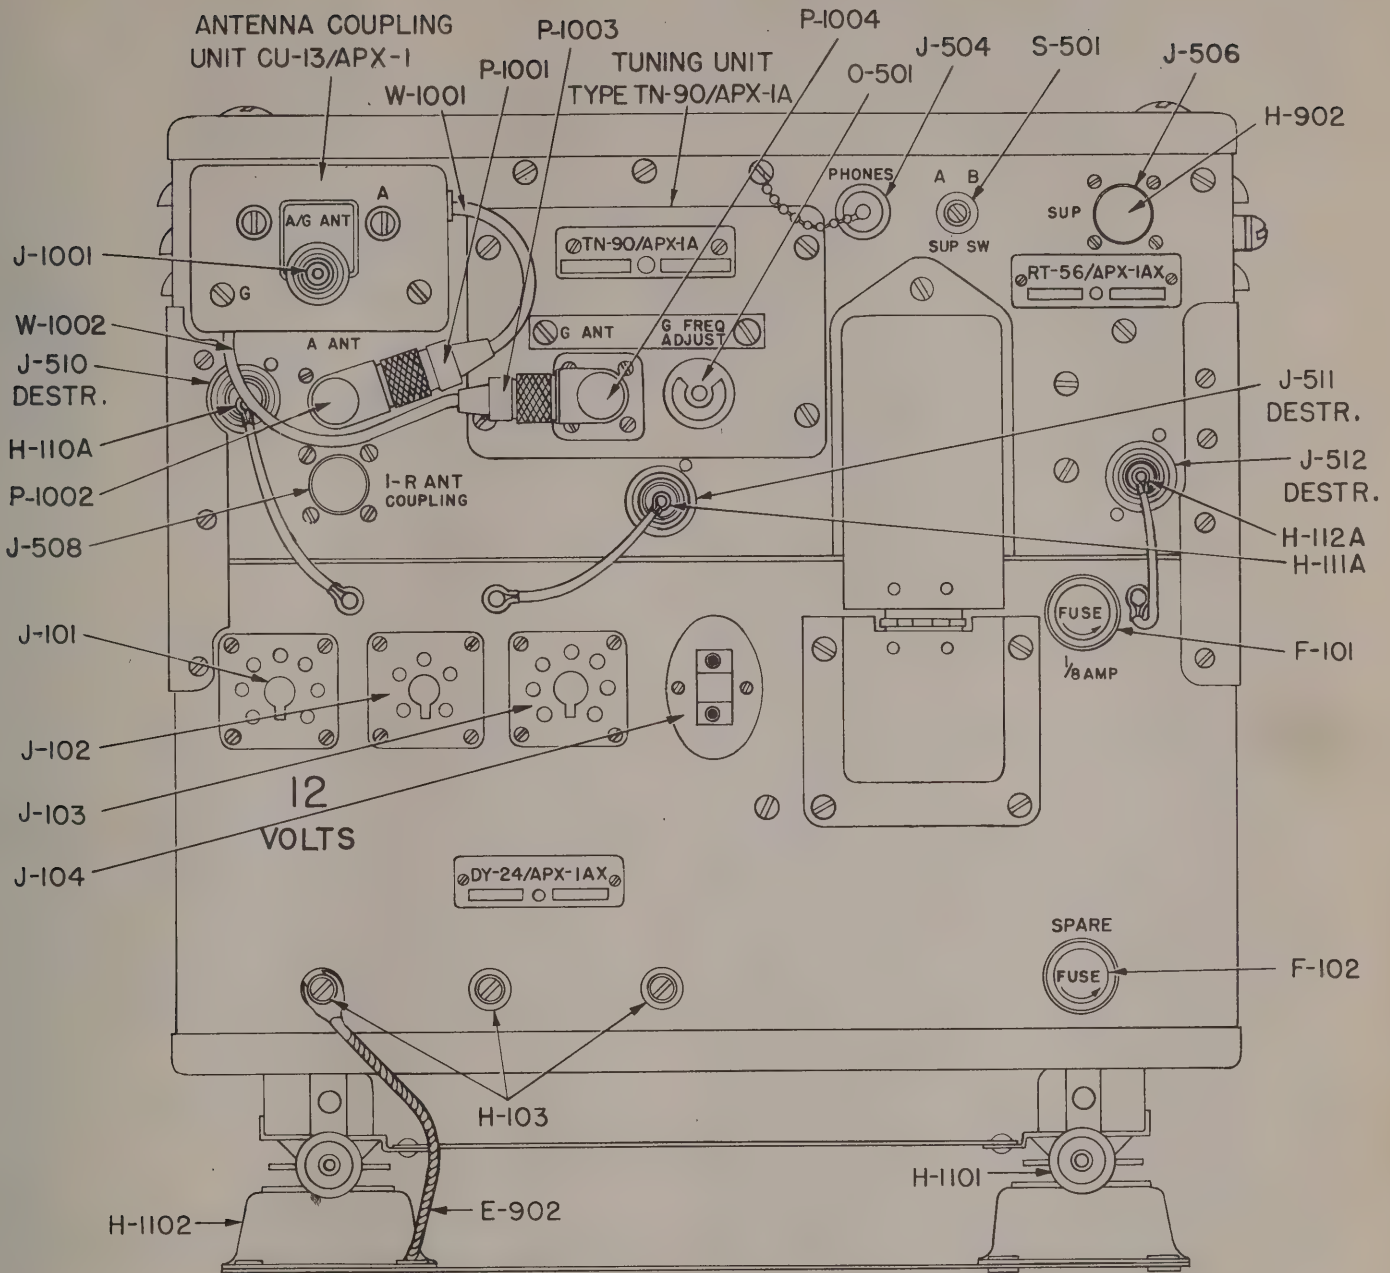

Figure 2-8. Receiver-Transmitter Unit Type RT-23A/APX-1X, Panel Controls
(Refer to Figure 2-8.)
c. **ADDITIONAL CONTROLS.**—There are two additional controls for the upper unit of the receiver-transmitter (not shown in Figure 2-8). These are accessible only thru holes, which are protected by dust covers, in the wrap-around of the receiver-trans-
(*Refer to Figures 2-8, 2-9, and 3-1.*)